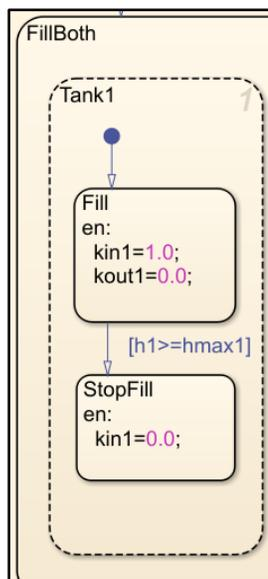

Figure 25. Connecting a “StopFill” block to “Fill” block.
i) Connect a transition line from “Fill” to “StopFill” with the following condition: **[[h1>=hmax1]]** (See Figure 25).